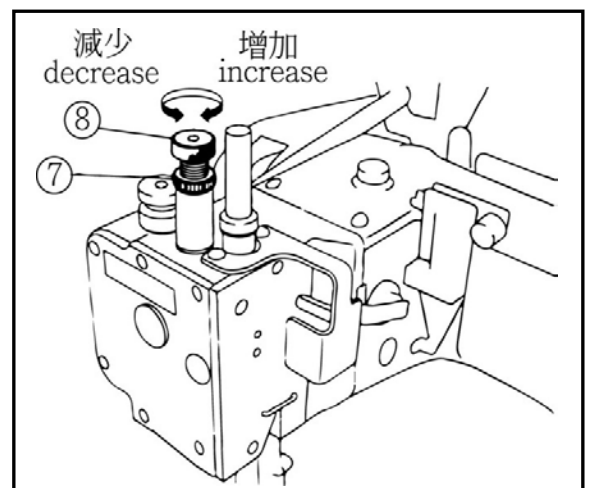

Fig. 25
Loosen the lock nut ⑦ and turn the adjusting screw ⑧ to adjust the pressure. (Fig. 25)